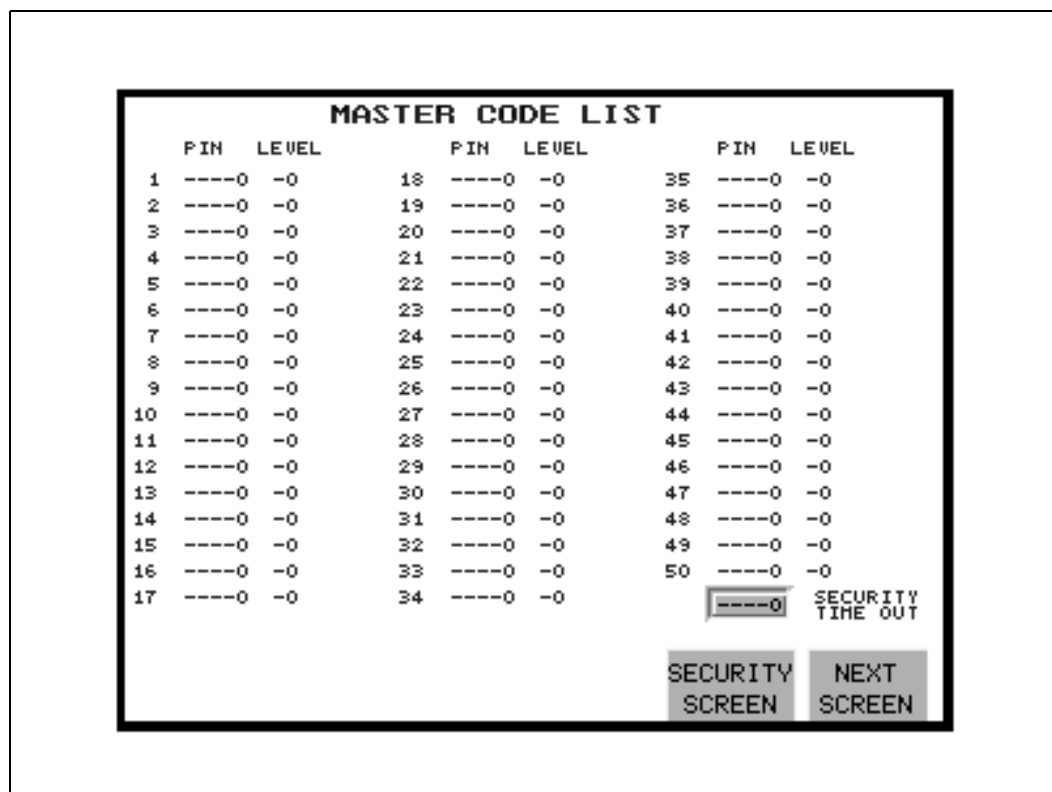

Figure 11-5: Teach - First PIN Set-up Screen
1. From the Master Security Screen, press the **CODES** key to access the first PIN Set-up Screen (Figure 11-5).